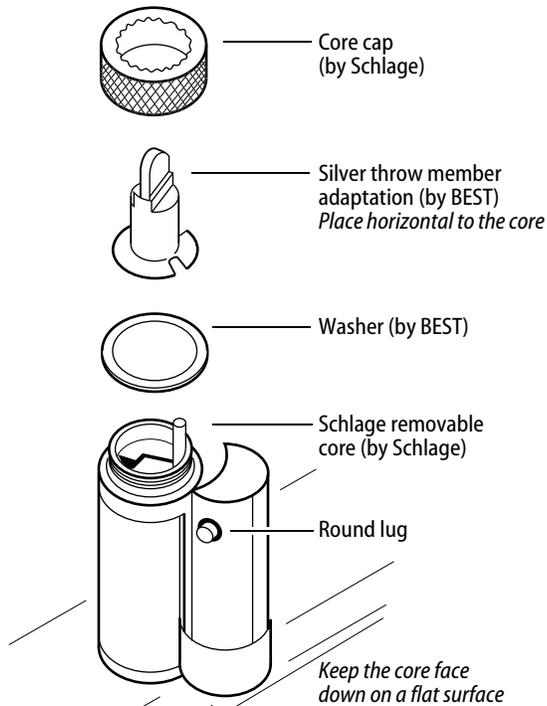
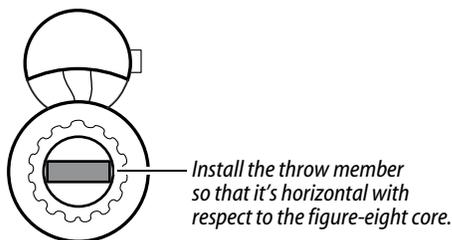

Figure 5 Putting the washer, throw member and core cap onto the Schlage core
Figure 6 Rear view showing the throw member blade oriented horizontally
- 3 Keeping the core face down, put the provided washer on the back of the core as shown in Figure 5.
- 4 Keeping the core face down, put the provided throw member on the back of the core as shown in Figure 5. **Put the throw member blade horizontal to the core** as shown in Figure 6.
- 5 Keeping the core face down, screw the core cap back on as shown in Figure 5.
- 1 Using the Schlage control key, insert the key into the assembled core and turn the key until the round lug – shown in Figure 5 – is flush to the core body.